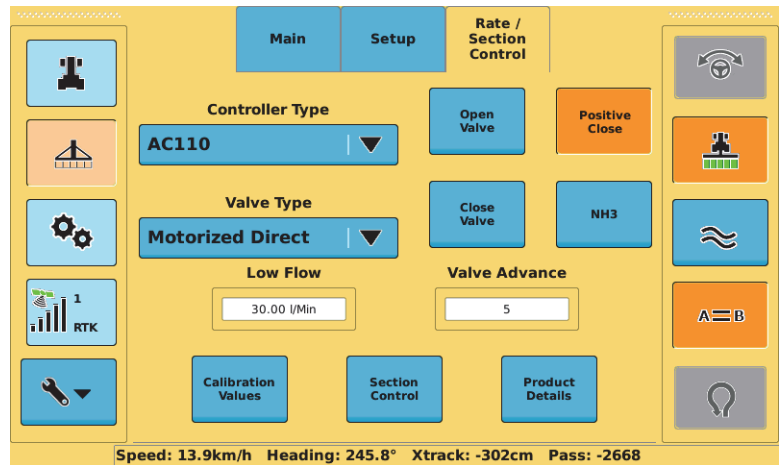

Figure 2: Rate Control screen
- Press **Rate Control**. The Rate Control screen appears (Figure 2 above—when you first display this screen no values will be selected or entered).
2. Press **Rate Control**. The Rate Control screen appears (see Figure 2 on page 10).